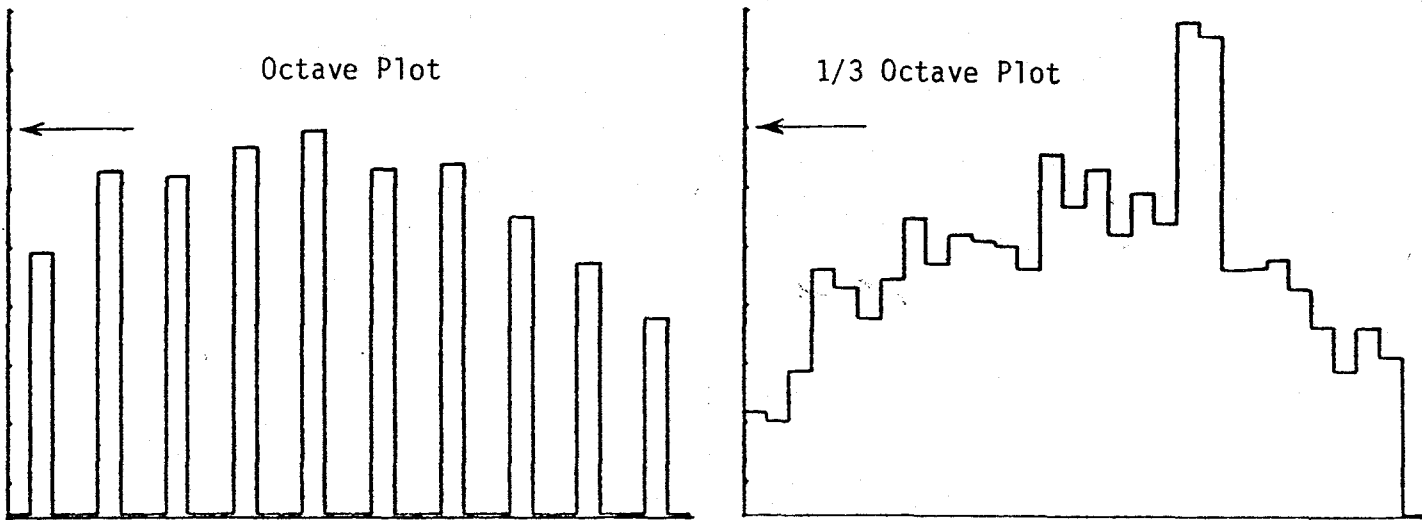

Figure 14
If the IE-30A display plotted is a 1/3 octave display, the X-Y plotter will plot a line graph. If the IE-30A display is an octave display, the X-Y recorder will plot a bar graph. Examples of octave and 1/3 octave display plots are shown in Figure 14 below.
1. For purposes of calibration, the Y axis on X-Y plots represents 50dB, full-scale. The second "tick mark" from the top (see the arrows in plots above) is always equal to the value of the REFERENCE LEVEL setting of the IE-30A at the time the plot was actuated. If, for example, the REFERENCE LEVEL setting of the IE-30A were 90dB when the two plots in Figure 14 were actuated, then the arrows would indicate a 90dB absolute level at the "tick marks" they point to.